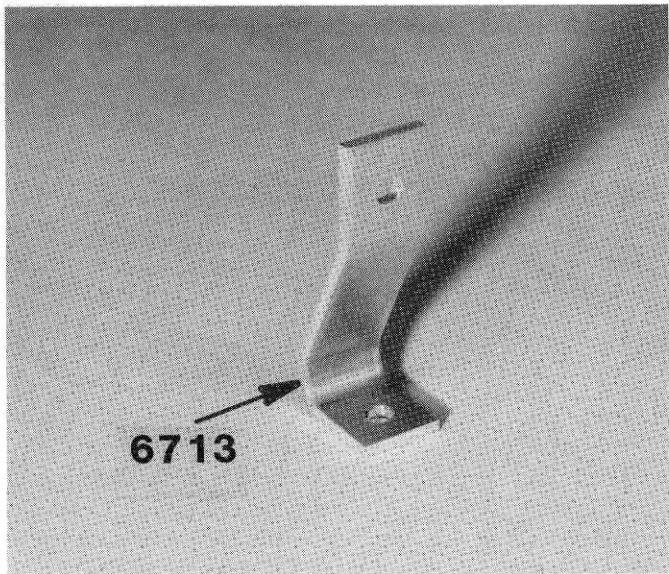

**Fig. 125**
□ **Fig. 125** If your servo comes with a small round servo horn this will be the best choice for this installation. If not, you will have to modify, as necessary, the servo horn that comes with your radio so the servo horn can rotate freely thru its arc. Install the round servo horn on your servo. Install the servo and blocks to the chassis on the "A" mounting holes, as shown, using the same two #6292 4/40 x 3/8" FHSS fasteners we used earlier. It is important that the servo mount high enough to allow the servo wheel to clear the chassis by about 1/8" (3.1mm). Add washers under the mounts if necessary to give the required clearance.